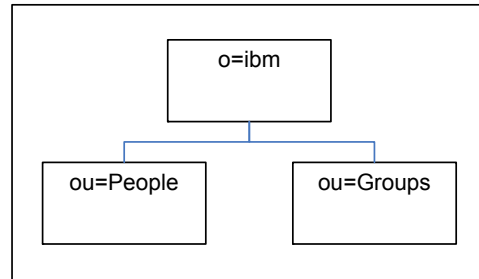

Figure 16-9 Default directory information tree created by mksecdap command
4. Creates the base DN (o=ibm in this example). The directory information tree that will be created in this example by default is shown in Figure 16-9.